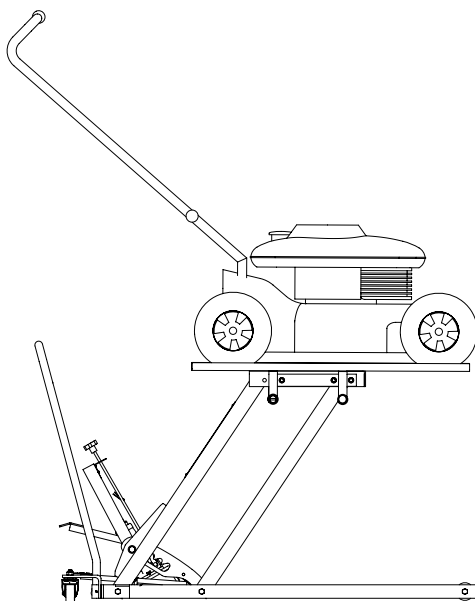

Figure 6 - Final lifted position
2. Pump the Lawn Mower Lift to the desired working height (see figure 6).